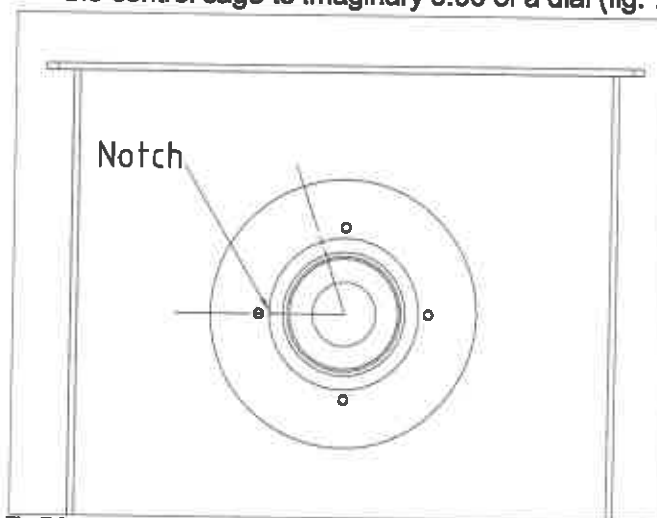

Fig. 7.2
- ☐ If the blast wheel is turning counter-clockwise, set the notch of the control cage to imaginary 9.00 of a dial (fig. 7.2).